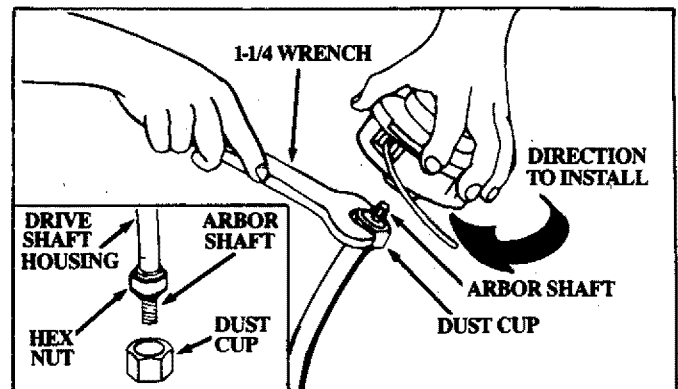

Figure 6
3. TRIMMER HEAD – Figures 6 & 7
- Place the Dust Cup on the Drive Shaft Housing over the hex nut that is assembled on the Arbor Shaft. Figure 6 (inset).
- Hold the Dust Cup with a wrench to keep the Arbor Shaft from turning. Figure 6.
- Thread the Trimmer Head onto the Arbor Shaft, against the Dust Cup, and as tight as possible with your hand. Figure 6.